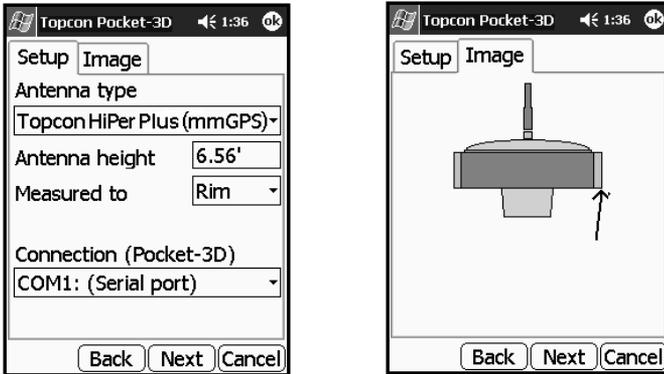

Figure 2-2. Antenna Information Dialog Box
4. Enter the antenna information using the same units of measure entered in the previous step, then press **Next** to continue (Figure 2-2 on page 2-3). These settings have a corresponding *Image* tab to illustrate the setup.